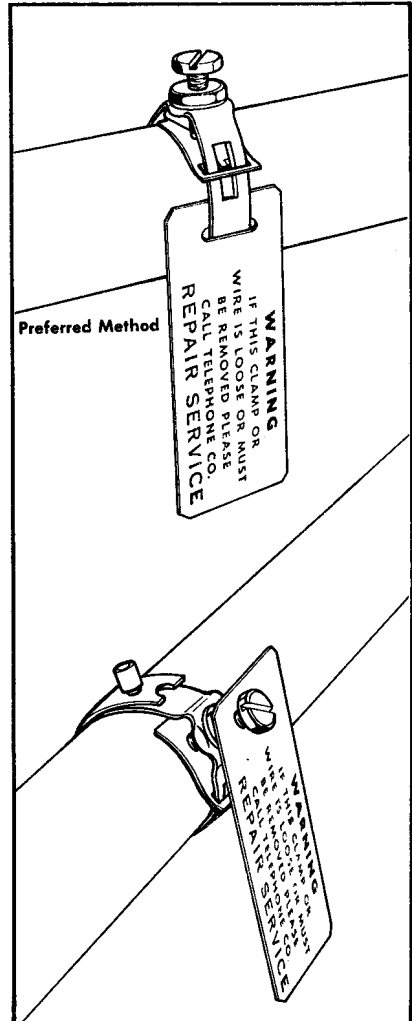

FIGURE 30. Warning Tag Attached to Station Ground Clamp
5.09 The preferred method of attaching the warning tag is to insert the station ground clamp through the elongated slot before attaching to a pipe. See Figure 30. An alternate means of attaching the warning tag to the station ground clamp is to place the elongated slot over the hexagonal screw. See Figure 30.